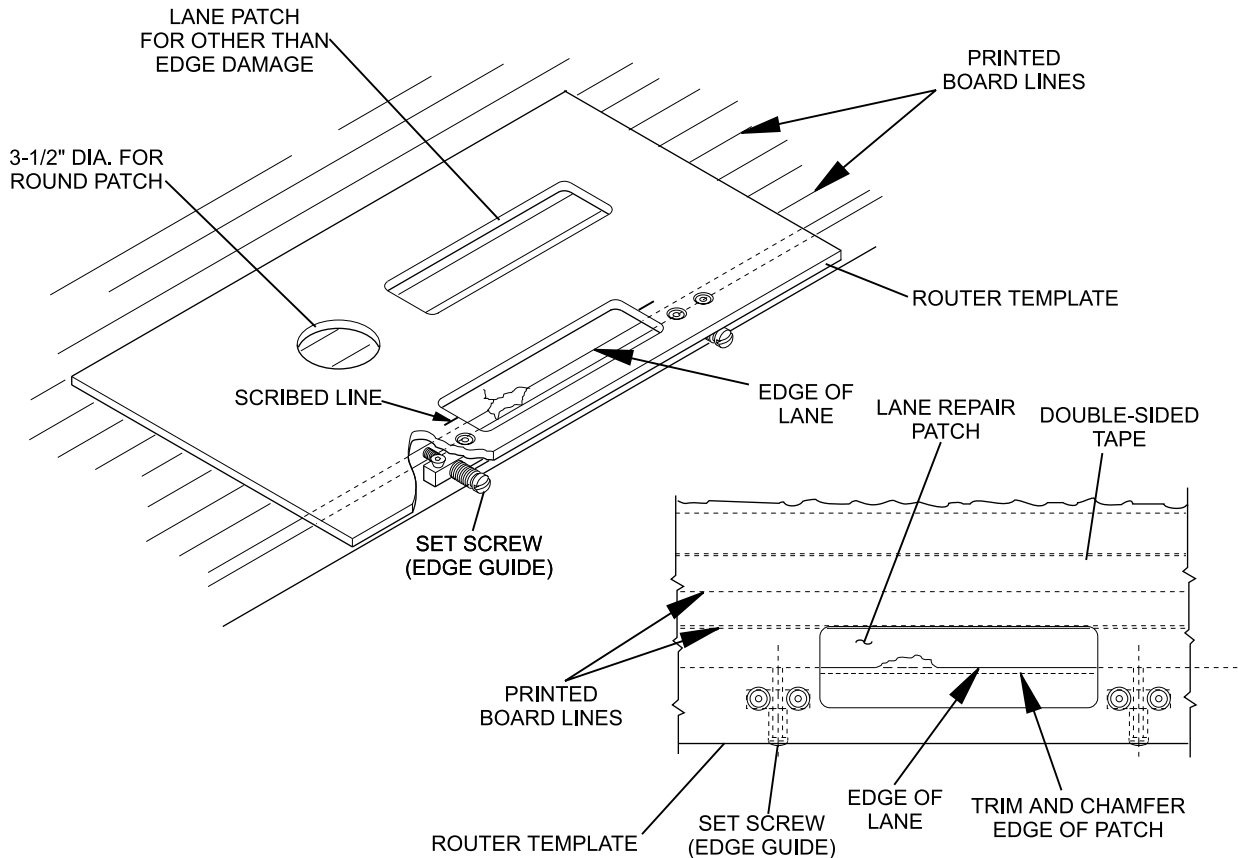

Figure 1.
2. Line up scribed lines on the router template with the edge of the lane (or printed board line on laminate surface) by adjusting the set screws against the edge of the lane. Refer to *Figure 1*.